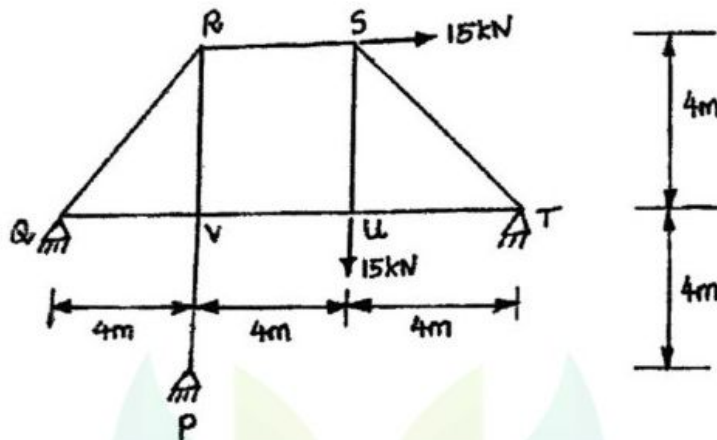

Fig. Q11 (a)
11. (a) The pin-jointed 2D truss is loaded with a horizontal force of 15 kN at joint S and another 15 kN vertical force at joint U as shown in Fig. Q11 (a). Find the forces in the members RS, SU and VP (in kN), taking tension as positive and compression as negative.